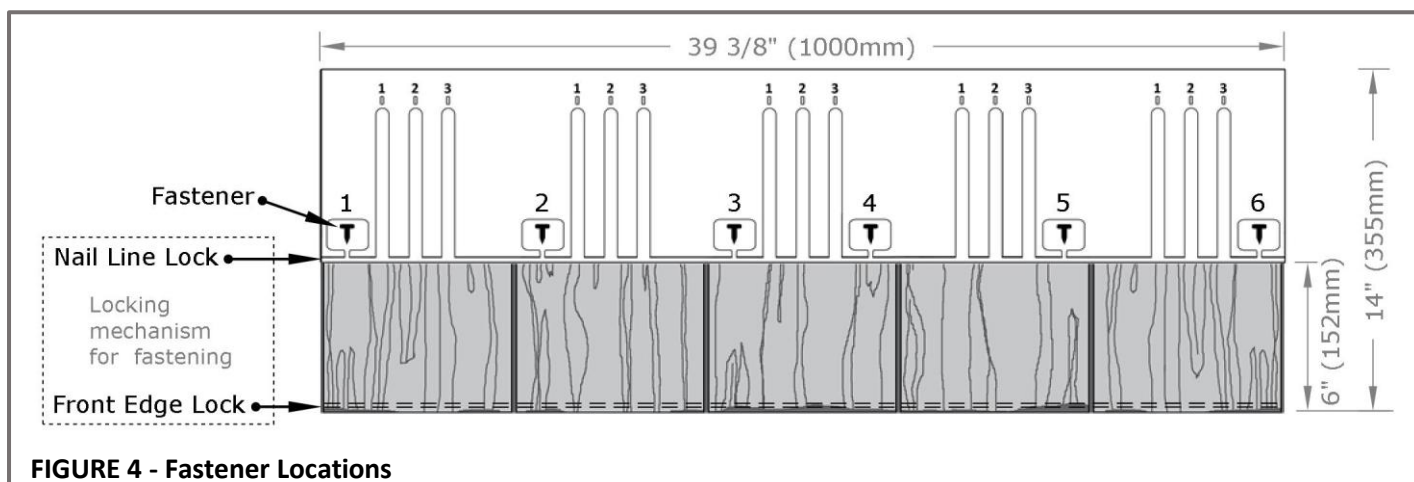

FIGURE 4 - Fastener Locations
- Fasteners must be positioned within the six boxes indicated on the shingle. See **Figure 4**.